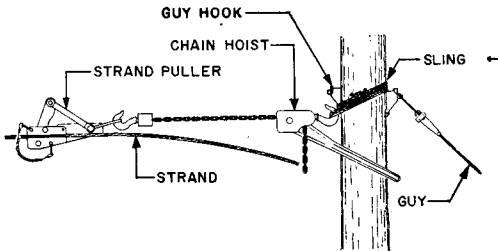

Fig. 1 – Pulling Up Strand – Chain Hoist Method
4.01 Suspension strand may be pulled up by means of a chain hoist, winch line, or block and tackle, as illustrated in Fig. 1 through 6.
4.05 Where a chain hoist is used, attach the sling to permit the hoist to pull as nearly as possible in line with the strand attachment and still leave working room for making the deadend as illustrated in Fig. 1.